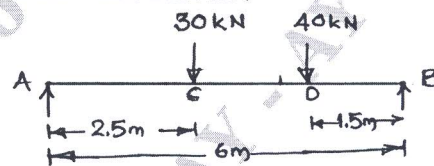

Fig.Q.4(b)
- 4 a. Determine the slope at left support and deflection at mid span of simply supported beam subjected to the loads as shown in Fig.Q.4(a) by using Maculay's method take $EI = 200\text{MN}\cdot\text{m}^2$. (10 Marks)
b. Determine the slope at A and deflection at mid span for the above beam shown in Fig.Q.4(b) by using moment area method $EI = 200\text{MN}\cdot\text{m}^2$. (10 Marks)